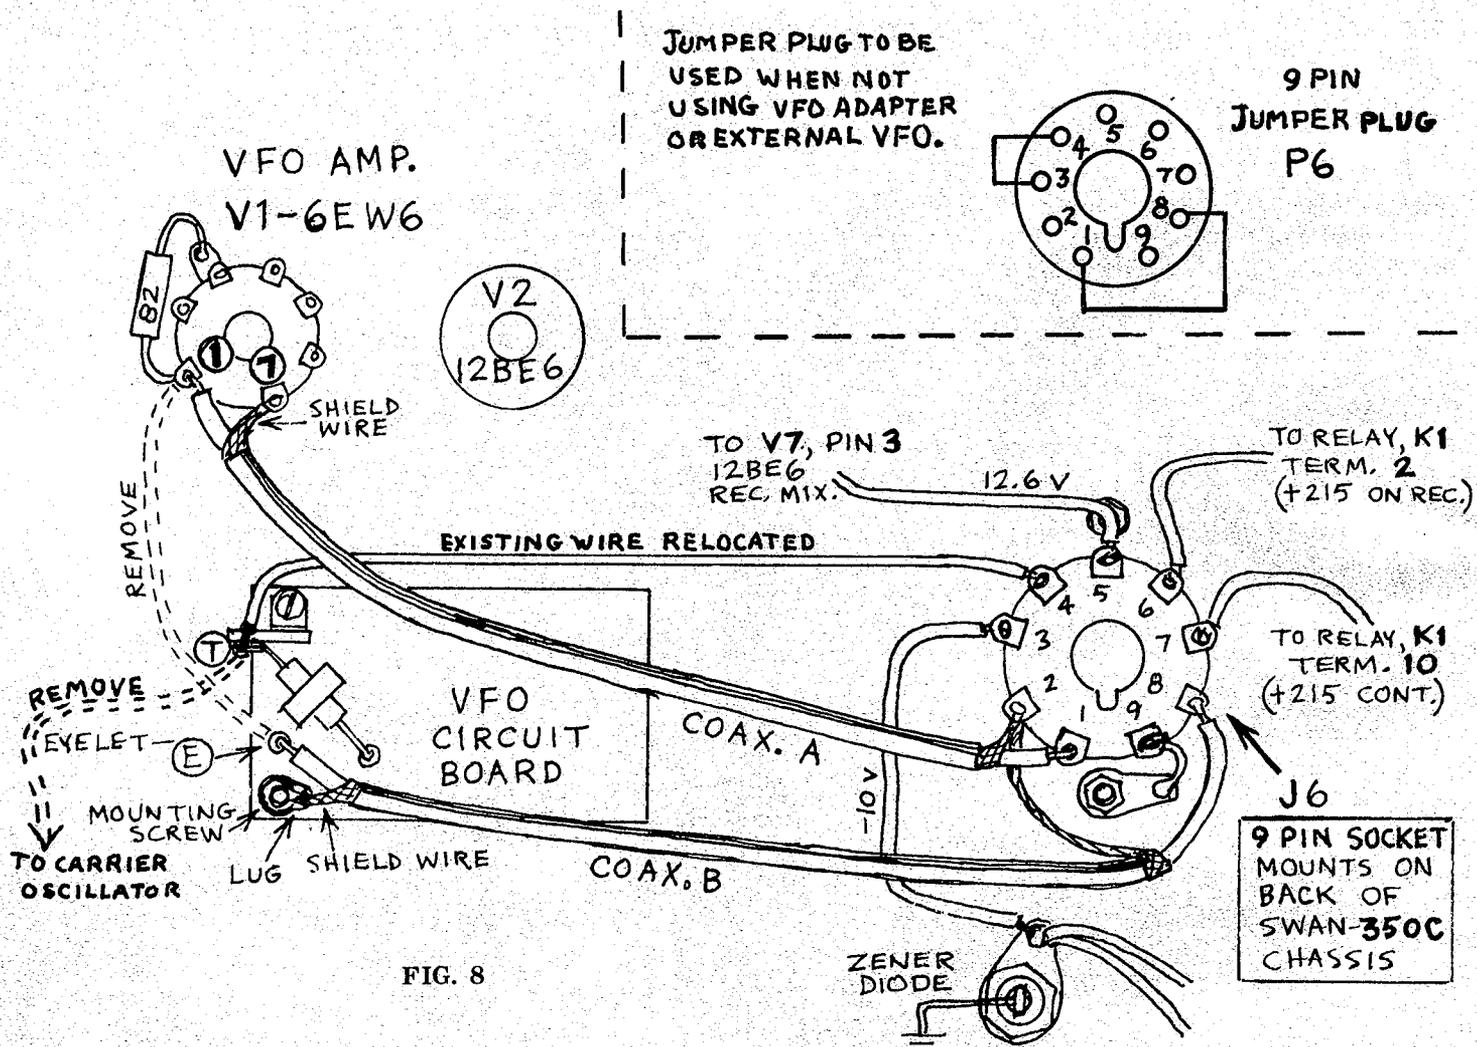

FIG. 8
1. Install the 9 pin socket J6 in the accessory location on the back of the 350C. Be sure to orient the socket keyway so the Model 22B adaptor, if used, will plug in correctly. Secure the mounting screws tightly. See Fig. 8.
2. Remove the wire from pin 1 of tube socket V1, the 6EW6 VFO amp. Connect coax (A) to pin 1 instead, and its shield to pin 7, which is grounded. Be sure to leave the 82 ohm resistor connected from pin 1 to ground. Coax cable may be either RG-58, 59, or 174/U.
3. Solder coax (B) to eyelet (E) on the VFO circuit board, and attach its shield wire to the grounded mounting screw with a solder lug.